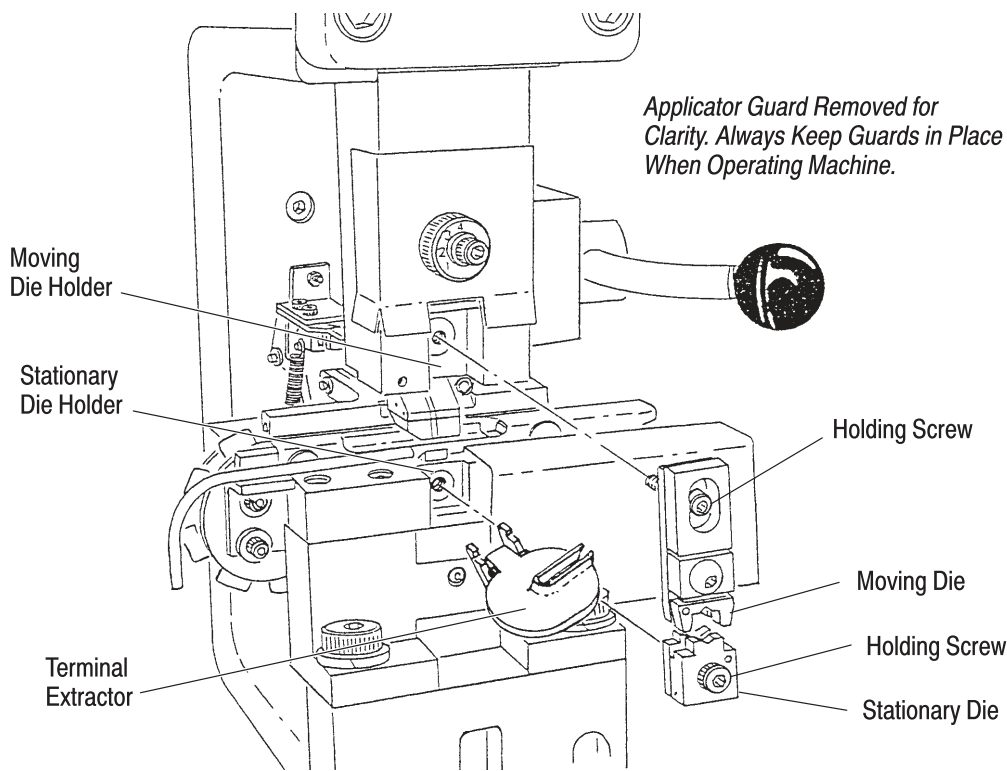

Figure 21
8.1. Die Replacement (Figure 21)
A. Removal (Figure 21)